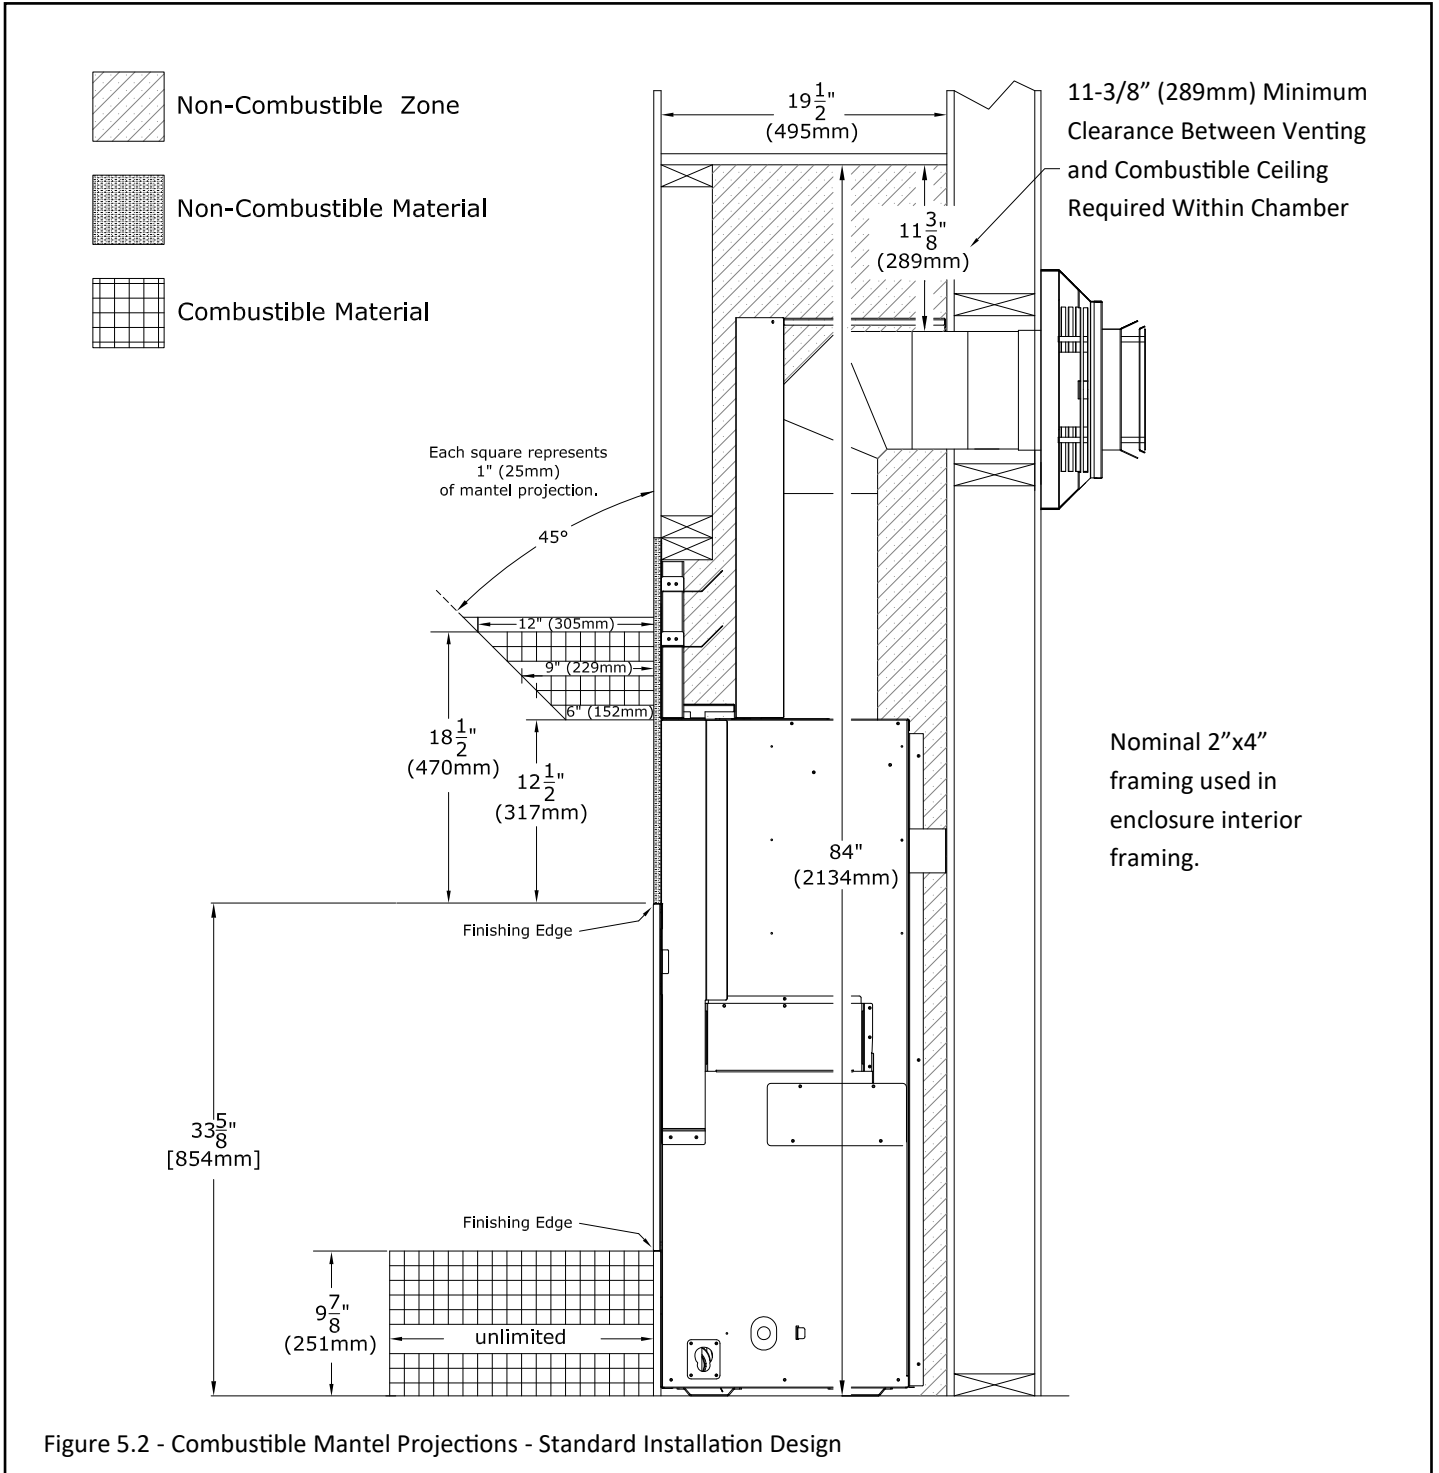

Figure 5.2 - Combustible Mantel Projections - Standard Installation Design
- **Combustible Mantel Projections:** As referenced in FIGURE 5.2 the 6" (152mm) mantel starts at 12-1/2" (317mm) above the top finishing edge. Mantel projections can increase 1" (25mm) of depth for every 1" (25mm) of height starting at the 6" (152mm) mantel.
Figure 5.2 shows a 6" combustible mantel projection starting 12-1/2" up from the top finishing edge of the fireplace. The dimensions shown are allowed in standard installation scenario. Mantel projections can increase 1" (25mm) of depth for every 1" (25mm) of height starting at the 6" (152mm) mantel. A combustible hearth is allowed with unlimited projection starting flush at the bottom finishing edge of the fireplace.